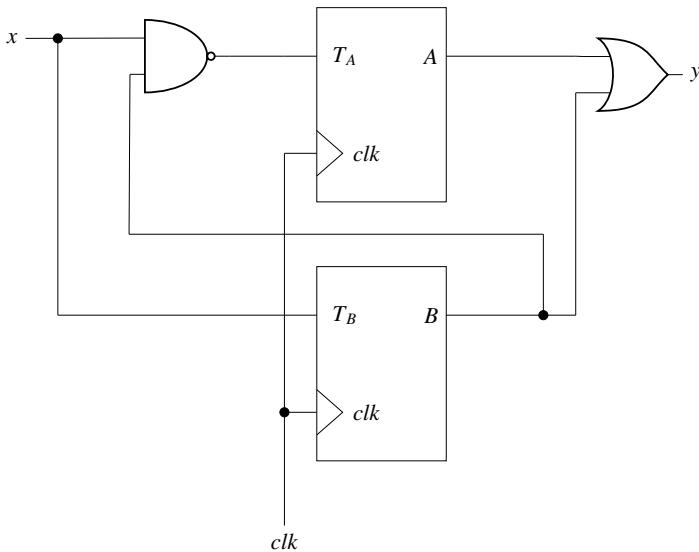

Fig. 5.30
31. Two T-flip flops are interconnected as shown in Fig. 5.30. The present state of the flip flops are: $A = 1, B = 1$. The input x is given as 1, 0, 1 in the next three clock cycles. The decimal equivalent of $(ABy)_2$ with A being the MSB and y being the LSB, after the 3rd clock cycle is _____